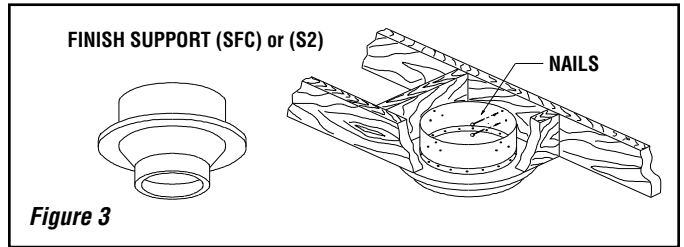

Figure 3
Step 3. From below push the finish support into the framed hole. Nail the support to the framed box using (12) 3" spiral nails (see figure 3).